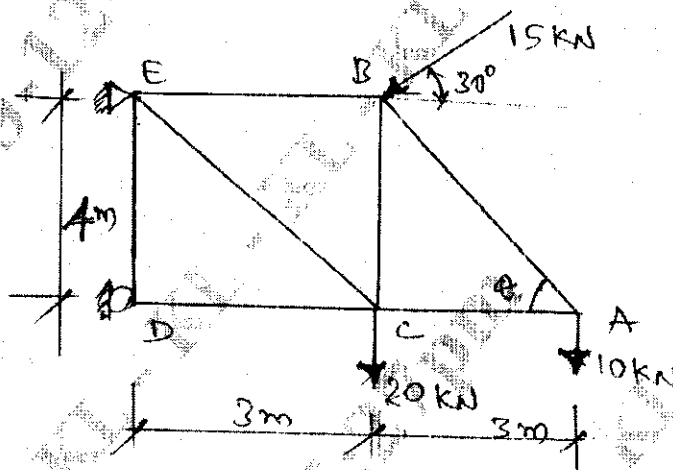

Fig.Q1(c)
- c. Find the forces in all members of the pin jointed truss shown in Fig.Q1(c) by method of joints. (04 Marks)